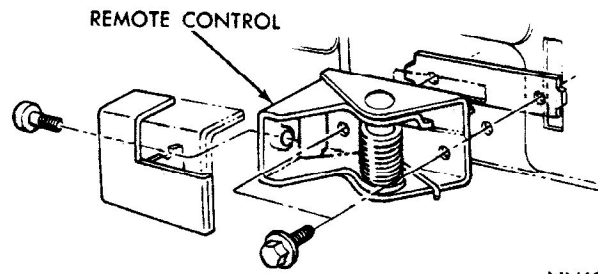

Fig. 12—Remote Control Handle
The remote control handle (Fig. 12) is attached to the control unit with a screw at the rear inner end.
- (1) Raise door glass.
- (2) Remove screws attaching remote control base to door panel (Figs. 12 and 13).
- (3) Remove link from remote control lever.